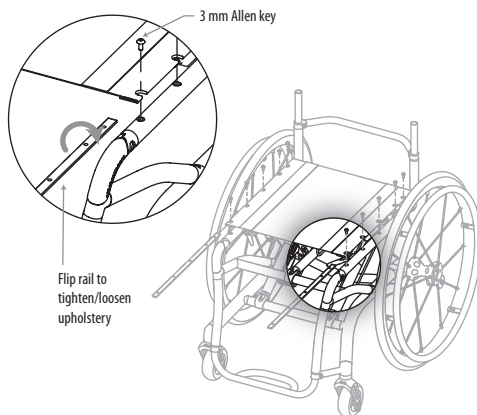

Figure 19.11 Adjusting/replacing tension adjustable seat sling.
- 3 Remove the 10 button heads that attached the seat sling to the seat rails using a 3mm Allen key. (See Figure 19.11.)
- 4 Lip the upholstery rail to loosen/tighten the upholstery. (See Figure 19.11.)
- 3 Unscrew the button head fasteners attaching the upholstery along the top of the seat rail as shown in Figure 19.11.
- 6 Flip the tensioning rails to tighten or loosen the upholstery as shown in Figure 19.11.